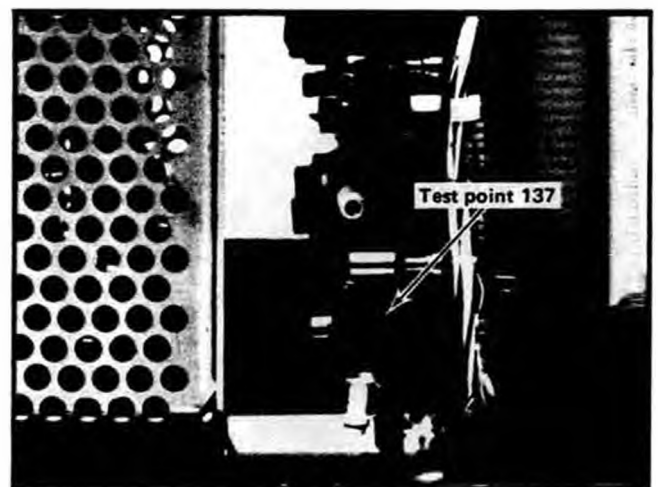

Fig. 5-25. Location of test point 137.
c. Connect the tip of the P6053 Probe to test point 137 (see Fig. 5-25) located on the Logic circuit board.